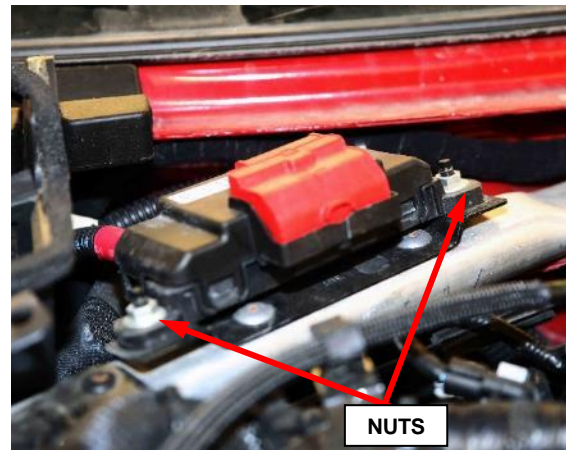

Figure 25 – Under Hood Junction Block
30. Remove the nuts securing the under hood junction block to the right engine box reinforcement brace then position the junction block aside (Figure 25).